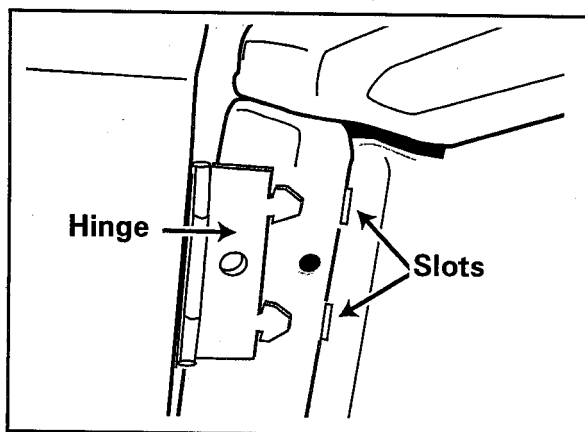

Figure 5-1
1. Open the door and remove the center screw of each hinge secured to the inner flange of the front panel in the door opening. (See Figure 5-1)